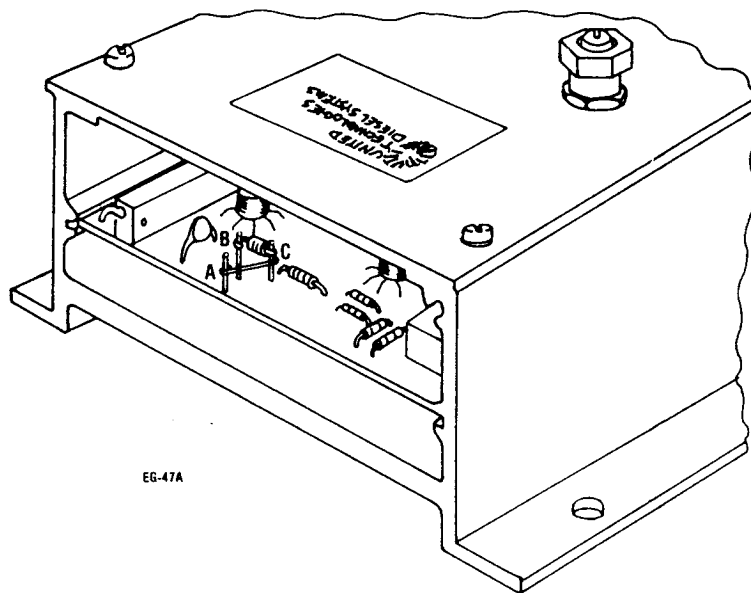

Figure 3. Location of posts "A", "B", and "C"
2. Locate the three lugs identified in the illustration as lugs "A", "B" and "C". See Figure 3.